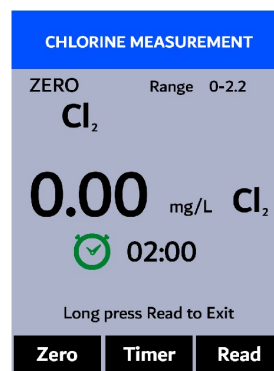

Figure 26.
7. Press **Zero** (**<**). **ZERO** will appear on the top-left corner of the display (Figure 26).